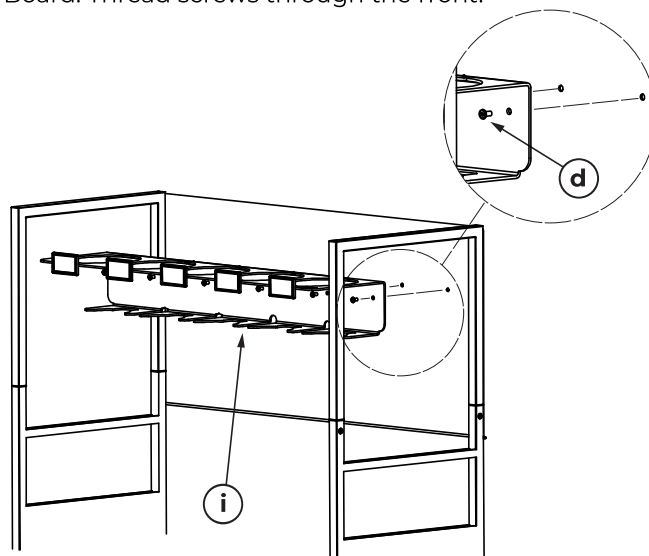

Figure 5
- Install the Container Mounting Bracket (i) using (6) Allen screws (d) as shown in Figure 5 below. Line up six holes on the Mounting Bracket with the holes on the Back Board. Thread screws through the front.